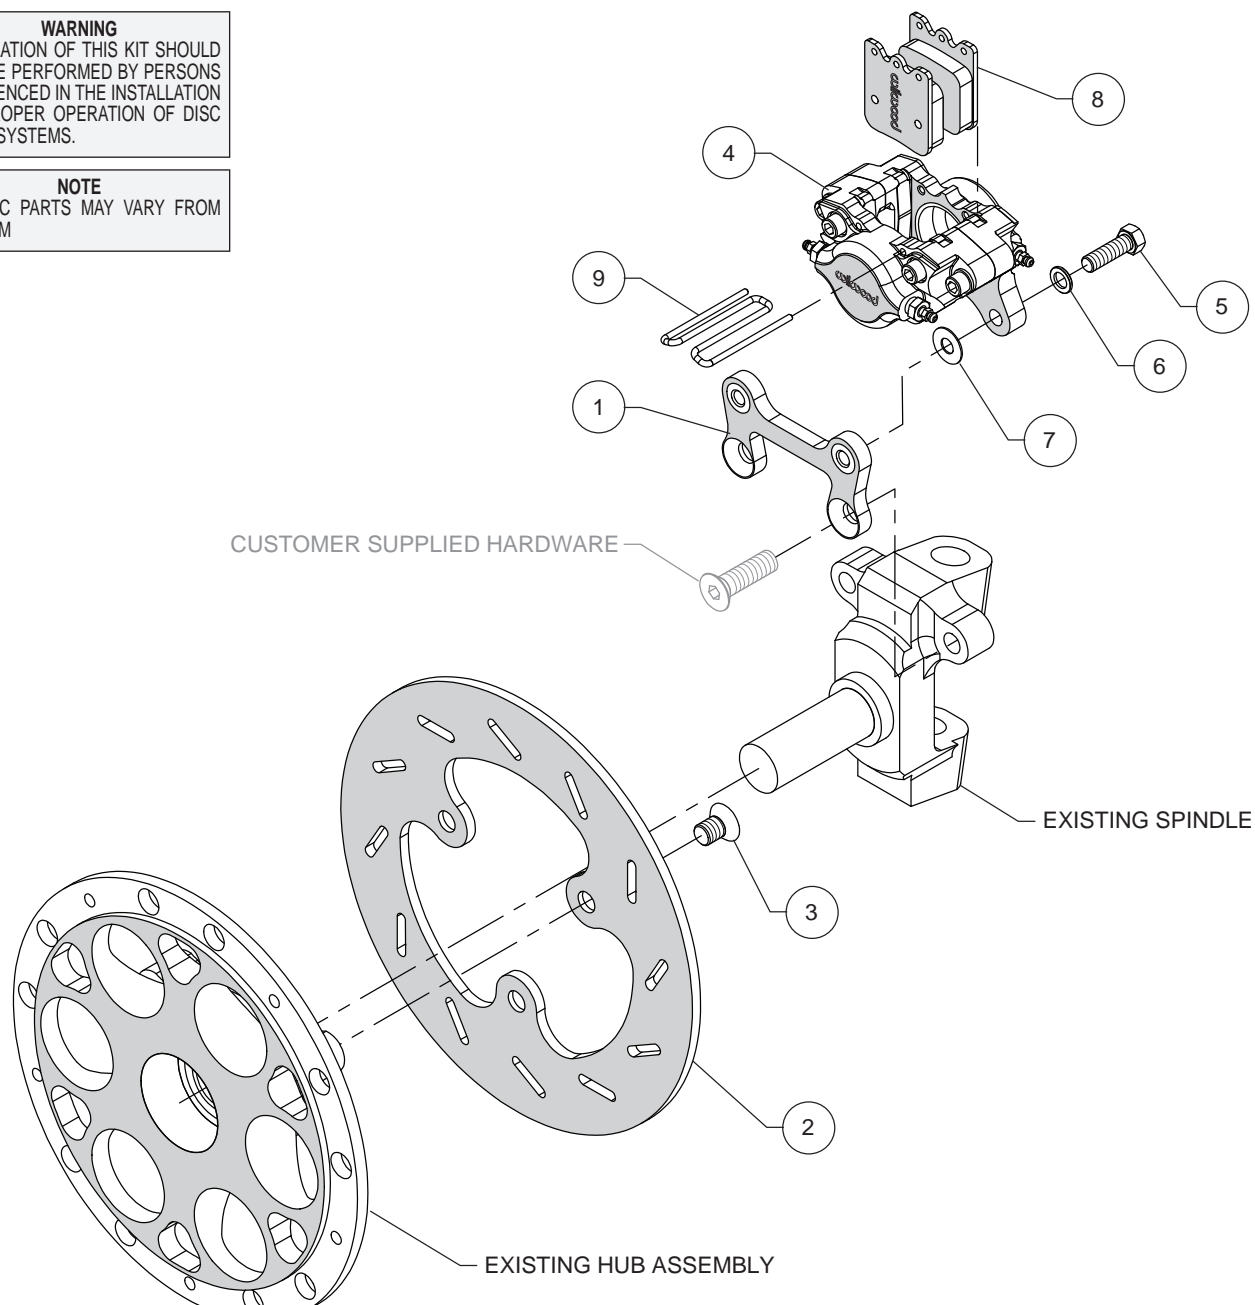
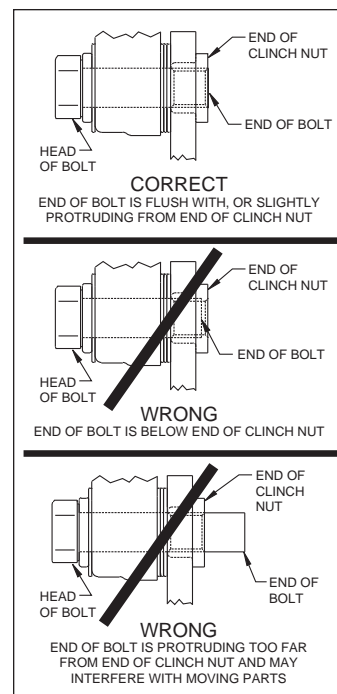

Figure 1. Typical Installation Configuration
Figure 3. Clinch Nut Engagement Diagram
**Assembly Instructions** (numbers in parenthesis refer to the parts list and Figure 1 on the preceding pages): **CAUTION:** All mounting bolts must fully engage clinch nuts. Be sure to check that all bolts are either flush or protruding through flanged side of clinch nut after shimming, Figure 3.
- Orient the caliper mount bracket (1) as shown in Figure 1, and install using customer supplied hardware. Ensure that the flanged heads of the clinch nuts in the bracket are facing outboard. Temporarily tighten the mounting bolts. **NOTE:** The bracket must fit squarely against the mount bosses on the spindle. Inspect for interference from machining ridges, burrs, etc. Remove bolts one at a time, apply red Loctite® 271 to the threads and torque to specification.
- Mount the rotor (2) to the existing hub assembly using bolts (3) as shown in Figure 1. Apply red Loctite® 271 to the bolt threads and torque bolts to 80 ft-lb.
- **NOTE:** Please reference the caution statement at the beginning of the assembly instructions. Orient the caliper (4), as shown in Figure 1, and install using bolts (5) and washers (6), Figure 1. Initially place one .035" thick shim (7) on each bolt between the caliper and bracket as shown in Figure 1. Temporarily tighten the bolts and view the rotor through the top opening of the caliper. The rotor should be centered in the caliper. If not, adjust by adding or subtracting shims (7) between the bracket and the caliper. Always use the same amount of shims on each of the two mounting bolts. **NOTE:** The end of each bolt must be flush with or slightly protruding from the head of the clinch nut. If necessary, place spare shims between washer and caliper mounting ear to achieve the proper clinch nut engagement, as shown in Figure 3. Once the caliper alignment and clinch nut engagement are correct, remove the bolts one at a time, apply red Loctite® 271 to the threads, and torque to 40 ft-lb. For an added measure of security, the bolts may be safety wired using